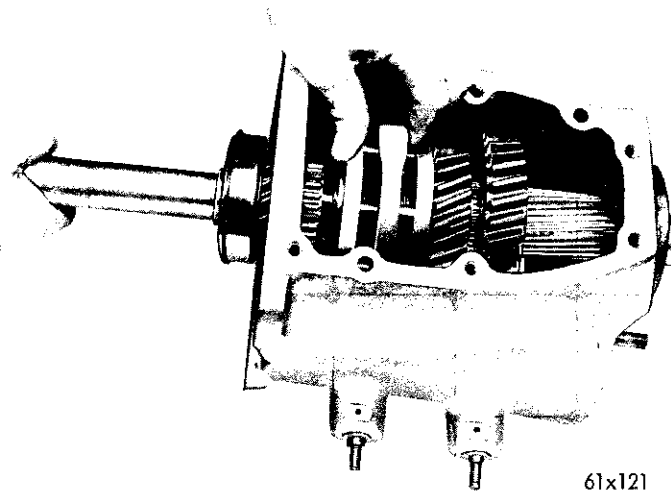

Fig. 3—Removing Drive Pinion Assembly
- (1) Remove the transmission case cover and discard the gasket.
- (2) Remove the four bolts from the drive pinion bearing retainer and remove the retainer.
- (3) When removing the drive pinion and the bearing assembly from the transmission case (Fig. 3), slide the synchronizer front inner stop ring from the short splines on the pinion as the assembly is being removed from the case.
- (4) Remove the snap ring which locks the main drive pinion bearing on the shaft.
- (5) Carefully press the bearing off the pinion shaft and remove the oil slinger.
- (6) Remove the mainshaft pilot bearing snap ring from the cavity in the end of the drive pinion gear.
- (7) Remove the 15 roller bearings.
- (8) Remove the seal from the pinion retainer.